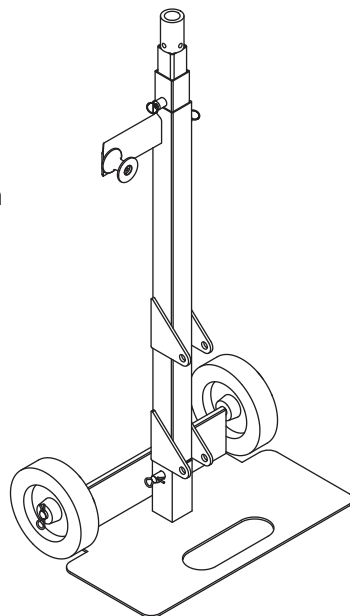

Figure 3
3. Slide in the mid extension and top extension boom tubes as shown in Figure 3. Make sure all the ring pull detent pins engage with the other tubes.